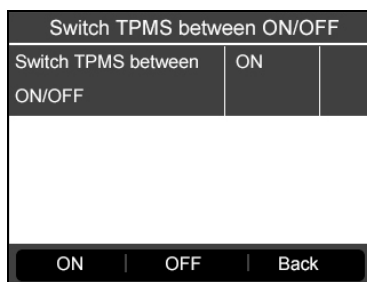

Figure 4.41
- 5) Press the corresponding **FUNCTION** button “**ON**” or “**OFF**” to turn ON/OFF the TPMS on the vehicle. (Figure 4.41)